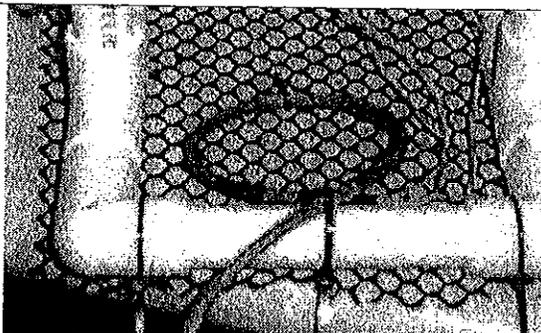

Figure 25: Waterproofed tether tied in strain relief loop
5. After water proofing the tether, make a loop in the tether and attach to the vehicle frame with tie wraps (aka. Zip ties). Make sure the tether comes off from the center of the frame to avoid pulling our ROV to one side once in the water. This is "strain relief", intended to prevent any pulling on the tether cable from pulling on the motors. (Figure 25).